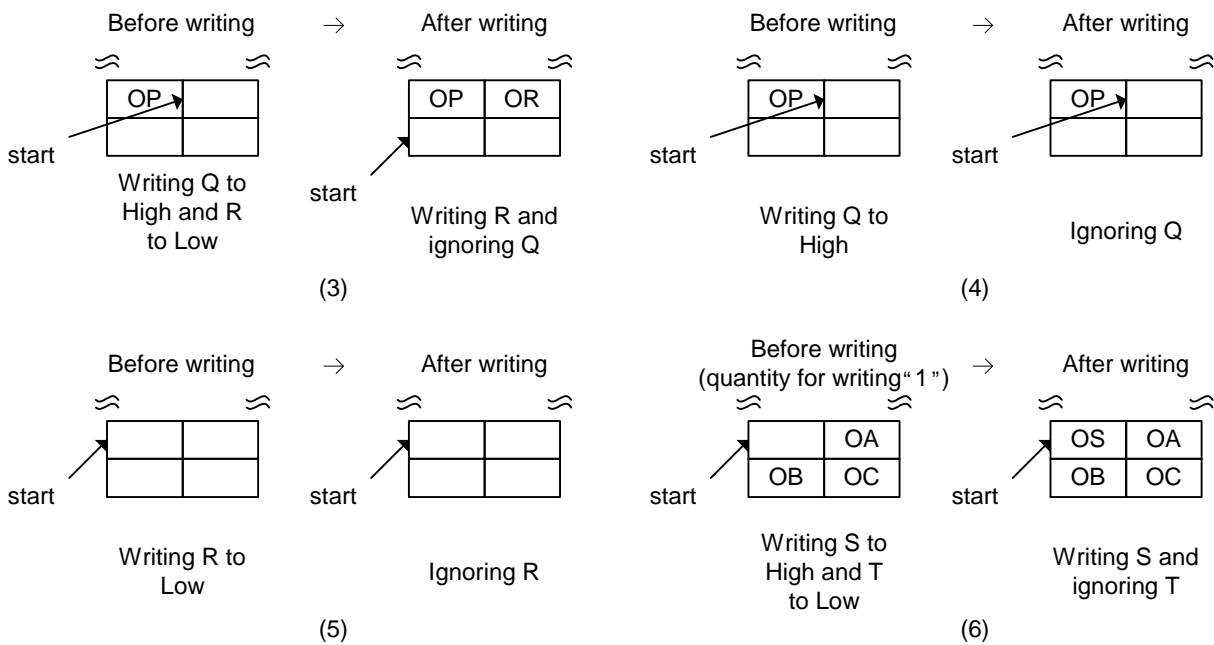

Fig. 1.78 FIFO writing processing (caution required)
If word writing is performed from a state in which byte boundaries exist in the FIFO, writing to High will be ignored. Only writing to Low will be performed (Fig. 1.78 (3)). In other words, the operation is identical to that performed when writing to Low. If writing to High only from a state in which byte boundaries exist in the FIFO, writing will be ignored (Fig. 1.78 (4)).
For cases in which writing occurs only to Low from a state in which byte boundaries do not exist in the FIFO, this writing will be ignored (Fig. 1.78 (5)). If word writing from a state in which byte boundaries do not exist in the FIFO and the quantity that can be written is "1," writing to Low will be ignored and only writing to High will be performed (Fig. 1.78 (6)). In other words, the operation is identical to that performed when writing to High.